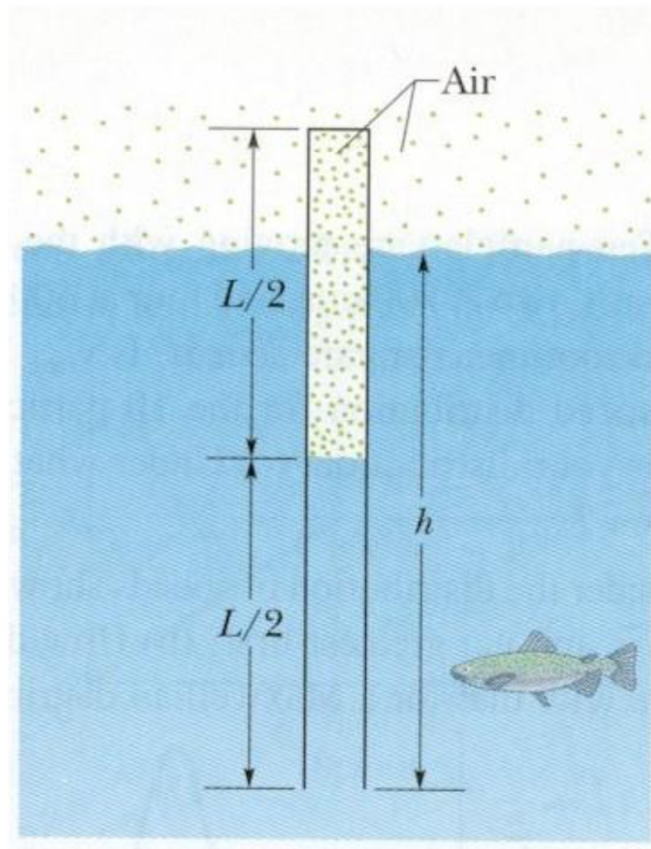

Fig. 1
1. A pipe of length $L = 25.0\text{m}$ that is open at one end contains air at atmospheric pressure. It is thrust vertically into a freshwater lake until the water rises halfway up in the pipe, as shown in Fig. 1. What is the depth h of the lower end of the pipe? Assume that the temperature is the same everywhere and does not change.